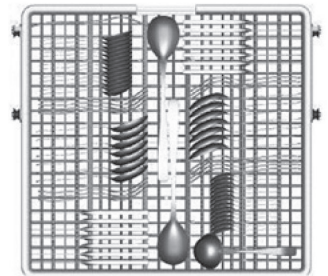

Fig.11
- Long and sharp objects should be placed in front of the upper rack in a horizontal position as shown in Fig. 11.